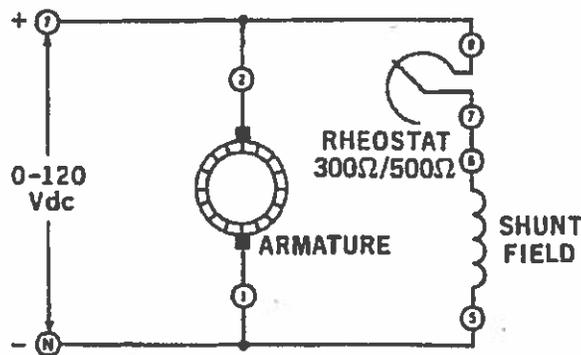

Figure 12-4.
12. Connect the circuit shown in Figure 12-4. Notice that the rheostat is in series with the shunt field, and that this combination is in parallel with the armature, across the input voltage.
16. Interchange the connection leads to the power supply. Your circuit should be the same as the one shown in Figure 12-4. Now reverse the connections to the armature only.